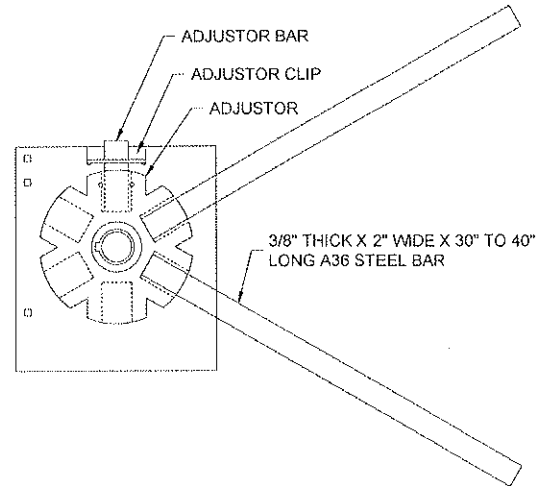

Figure 8.3 – SA0005 Spring Adjustor
**Note:** SA0005 adjustors require the use of an adjustor bar as a stop as well as a 3/8" thick x 2" wide x 30" to 40" long A36 steel bars to apply spring torque. See **Figure 8.3**.